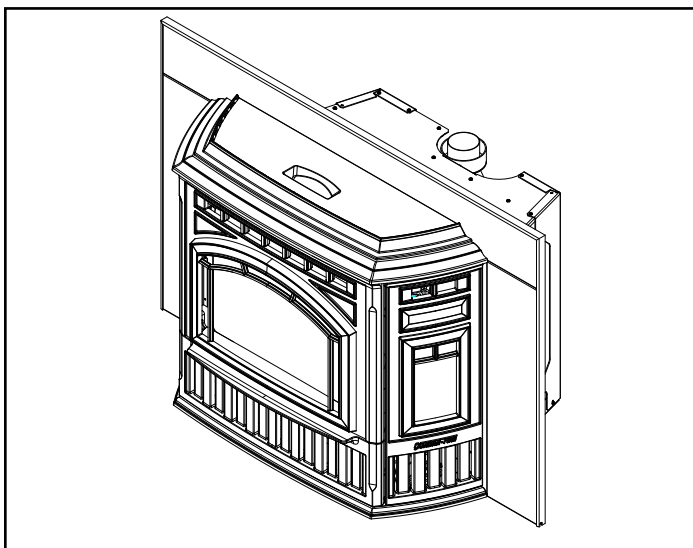

Figure 20.2 - Completed View
9. Carefully slide surround and trim over the top of the insert into place matching the mounting holes on the panel with the mounting holes on the insert. Secure with screws provided. (**Figure 20.2**)